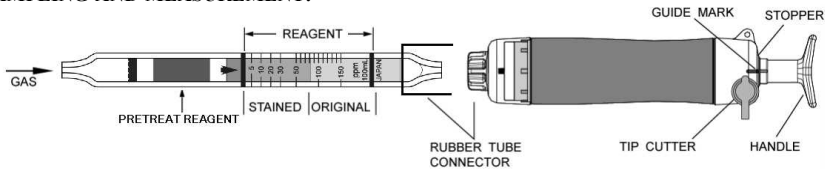

Fig.1
- ② Insert the detector tube into the aspirating pump securely as shown in Fig.1. (Arrow mark shall point to the pump.)
- ③ Align the guide marks on the shaft and stopper of the aspirating pump.
- ④ Pull the pump handle at a full stroke until it locks and wait for 2 minutes or until the completion of sampling is confirmed with the flow indicator of the pump (See descriptions about the flow indicator in the instruction manual of the pump).
- ⑤ On completion of sampling, read the scale at the maximum point of the stained layer.
- ⑥ When the concentrations are below the scale range, 2 pump strokes can be used to determine concentrations of 2.1 to 21 ppm. Turn the pump handle right or left by 1/4 (90°), push it toward the pump without removing the detector tube from the pump, and repeat the step ③~④ once more. On completion of sampling, read the scale at the maximum point of the stained layer. Then multiply the reading value by 0.42.
- ⑦ When the concentration is over the scale range, a 1/2 pump stroke can be used to determine concentrations of 10 to 300 ppm. Remove the detector tube from the pump. Turn the pump handle right or left by 1/4 (90°), push